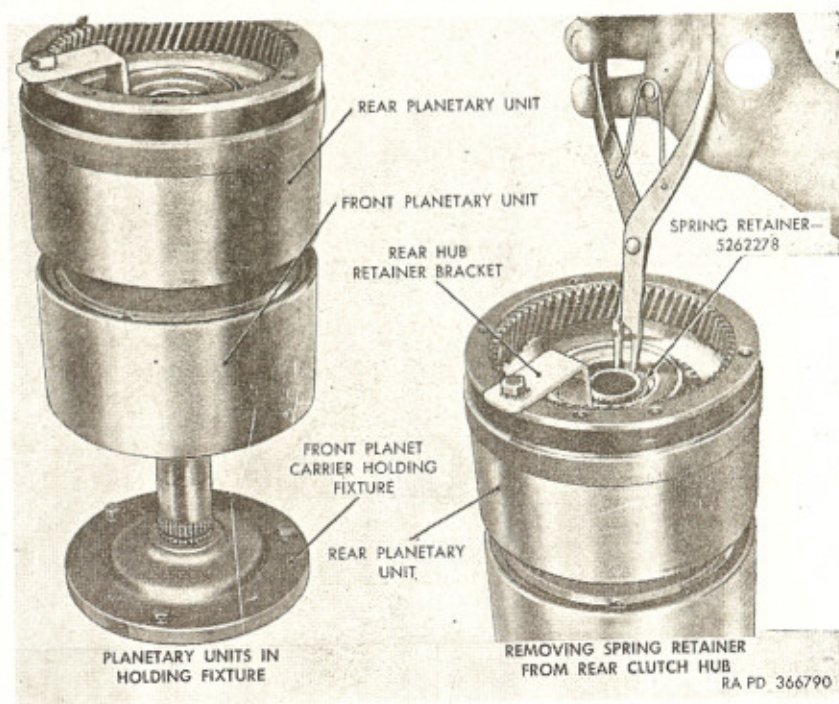

Figure 101. Planetary units and carrier in holding fixture—B7079295.
b. Place front and rear planetary units with carrier in holding fixture—B7079295 (fig. 101). Using snap ring pliers, remove spring retainer from top of rear clutch hub (fig. 101).
c. While holding center bearing cap assembly down to prevent front clutch oil delivery sleeve assembly from coming up and getting hung on snap ring, lift rear planetary unit (fig. 101) from planet carrier shaft.